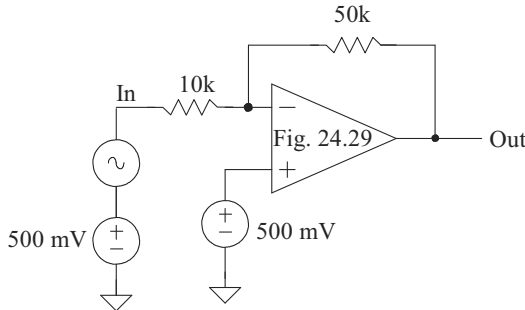
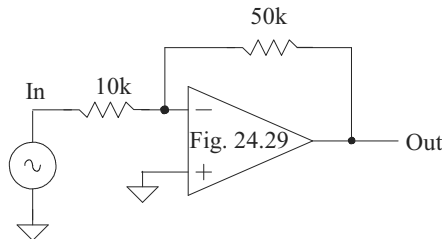

Figure 24.65 Amplifier used for Problem 24.10.
Figure 24.66 Amplifier used for Problem 24.11. What's wrong with this topology?
- 24.10** The op-amp seen in Fig. 24.29 has a gain-bandwidth product (f_{un}) of about 100 MHz. Suppose that this op-amp is used in the amplifier seen in Fig. 24.65 (gain of -5). Estimate the amplifier's closed loop bandwidth (where the output of the amplifier is -3 dB down from its low-frequency value) using Eq. (24.34). Verify your results using simulations (transient analysis). What are the maximum and minimum voltages allowable for an input sinewave if the output voltage of the amplifier must lie between 100 and 900 mV?
- 24.11** Suppose it is decided to eliminate the 500 mV common-mode voltage in the amplifier seen in Fig. 24.65 and use ground, as seen in Fig. 24.66. Knowing that the input voltage can only fall between ground and V_{DD} , what is the problem one will encounter?